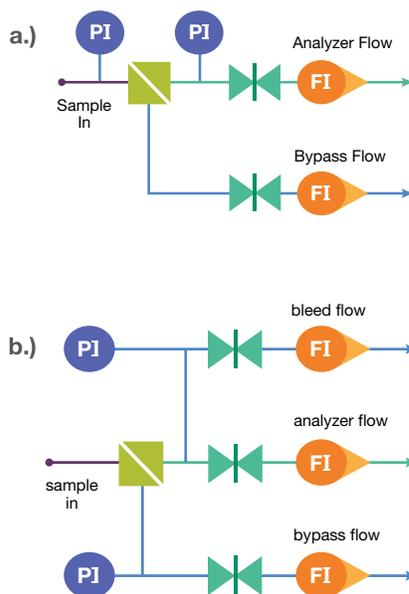

Figure 2. The system at the top (a) has two dead legs that will need to be purged, contributing to time delay. The system at the bottom (b) has no dead legs.
- **Unpurged Tee-Pieces Causing Dead Legs:** A dead leg is an unpurged side volume that allows molecules to diffuse into and out of the flowing system media. Any tee or cross in the analyzed sample line is a dead leg unless all its ports are flowing. You'll need to purge these areas before performing sample analyses, with that purging period contributing to time delay. Common dead legs include connection points for pressure and temperature gauges, purge and bleed valves, calibration manifolds, and lab sampling points. Relocating the dead leg (such as a gauge) is sometimes the simplest solution (*Figure 2*).